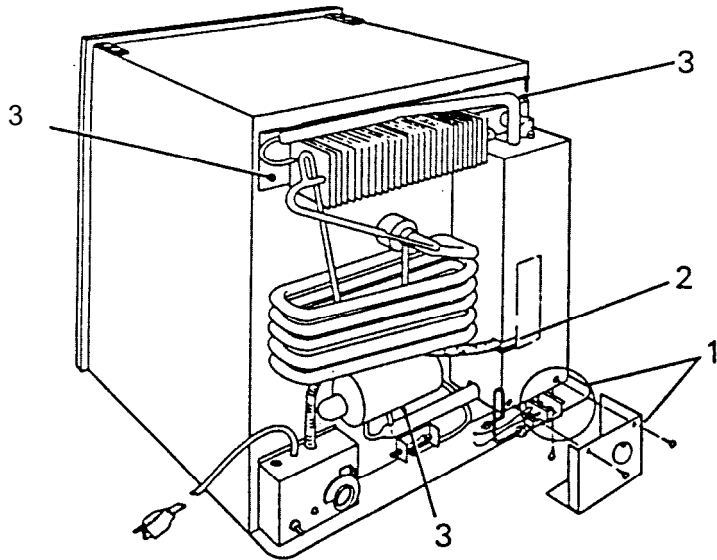

FIG. E1
1. Remove cover and disconnect burner from chimney (FIG. E1).
2. Remove heater from boiler case (FIG. E1).
6. Reconnect burner assembly to chimney and replace cover (FIG. E1).
7. Install the heating elements completely back into the pocket (FIG. E1).